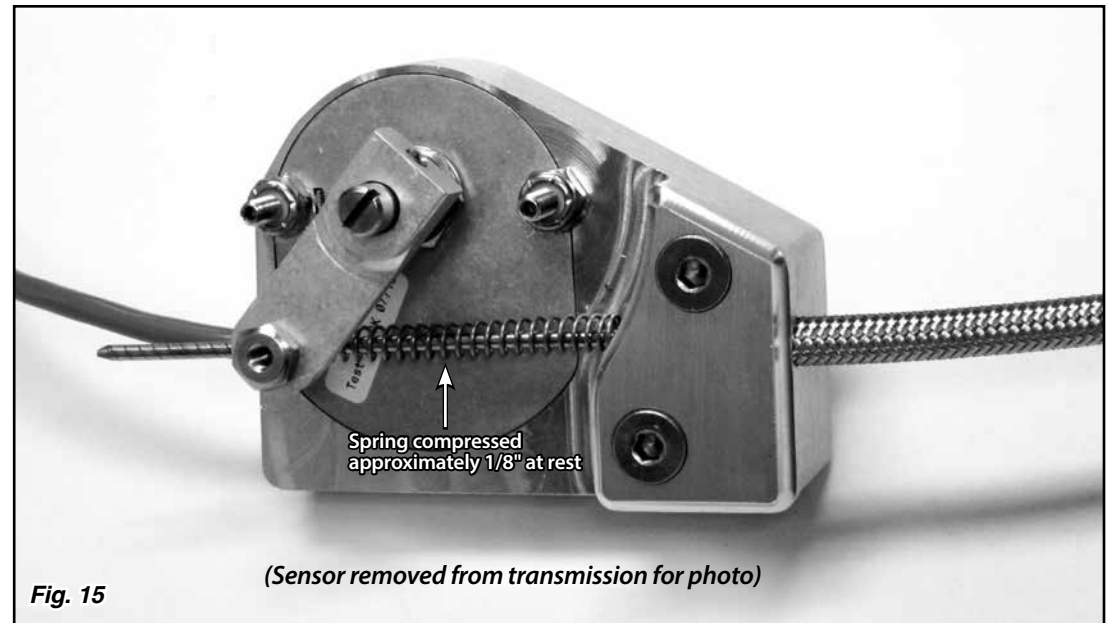

Fig. 15
Step 14: Make sure the transmission is in Park. Push the sensor arm up against the spring, so that the spring is compressed approximately 1/8" at rest in Park. **Fig. 15** Tighten the set screw in the index cable stop on the sensor arm using a 1/16" Allen wrench. Trim the excess inner wire, leaving about 1" protruding.